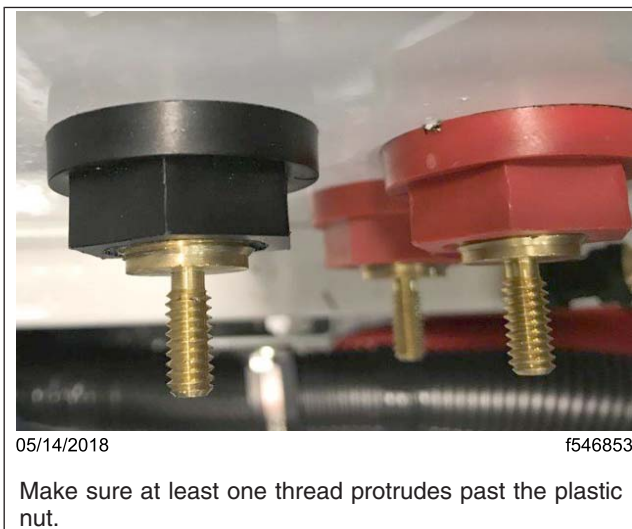

Fig. 4, Correctly Installed Pass-Through
4. Pull back the covers on the power cable stud connectors. See Fig. 2. Inspect each cable stud to make sure at least one thread protrudes past the plastic nut. See Fig. 3 and Fig. 4.